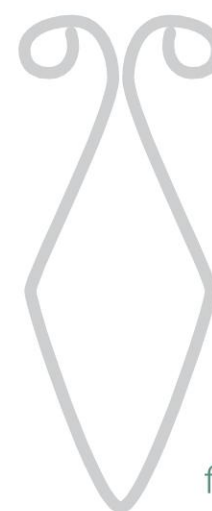

figure 2
- 5 Form 45° bends at the 1½" (3.8 cm) and 3" (7.6 cm) marks made in Step 2 so the loops touch each other (Figure 2). Set the Inner Frame aside.